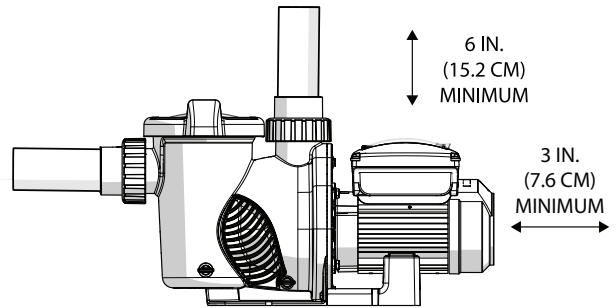

FIGURE 2
6. Install the pump with a rear clearance of at least 3-inches (76.2 mm) so that the motor can be removed easily for maintenance and repair. See Figure 2.
4. AquaStar recommends plumbing the suction side of the pump with a straight run of pipe equal to (5) times the pipe diameter before any valve, elbow, or tee. See Figure 2.